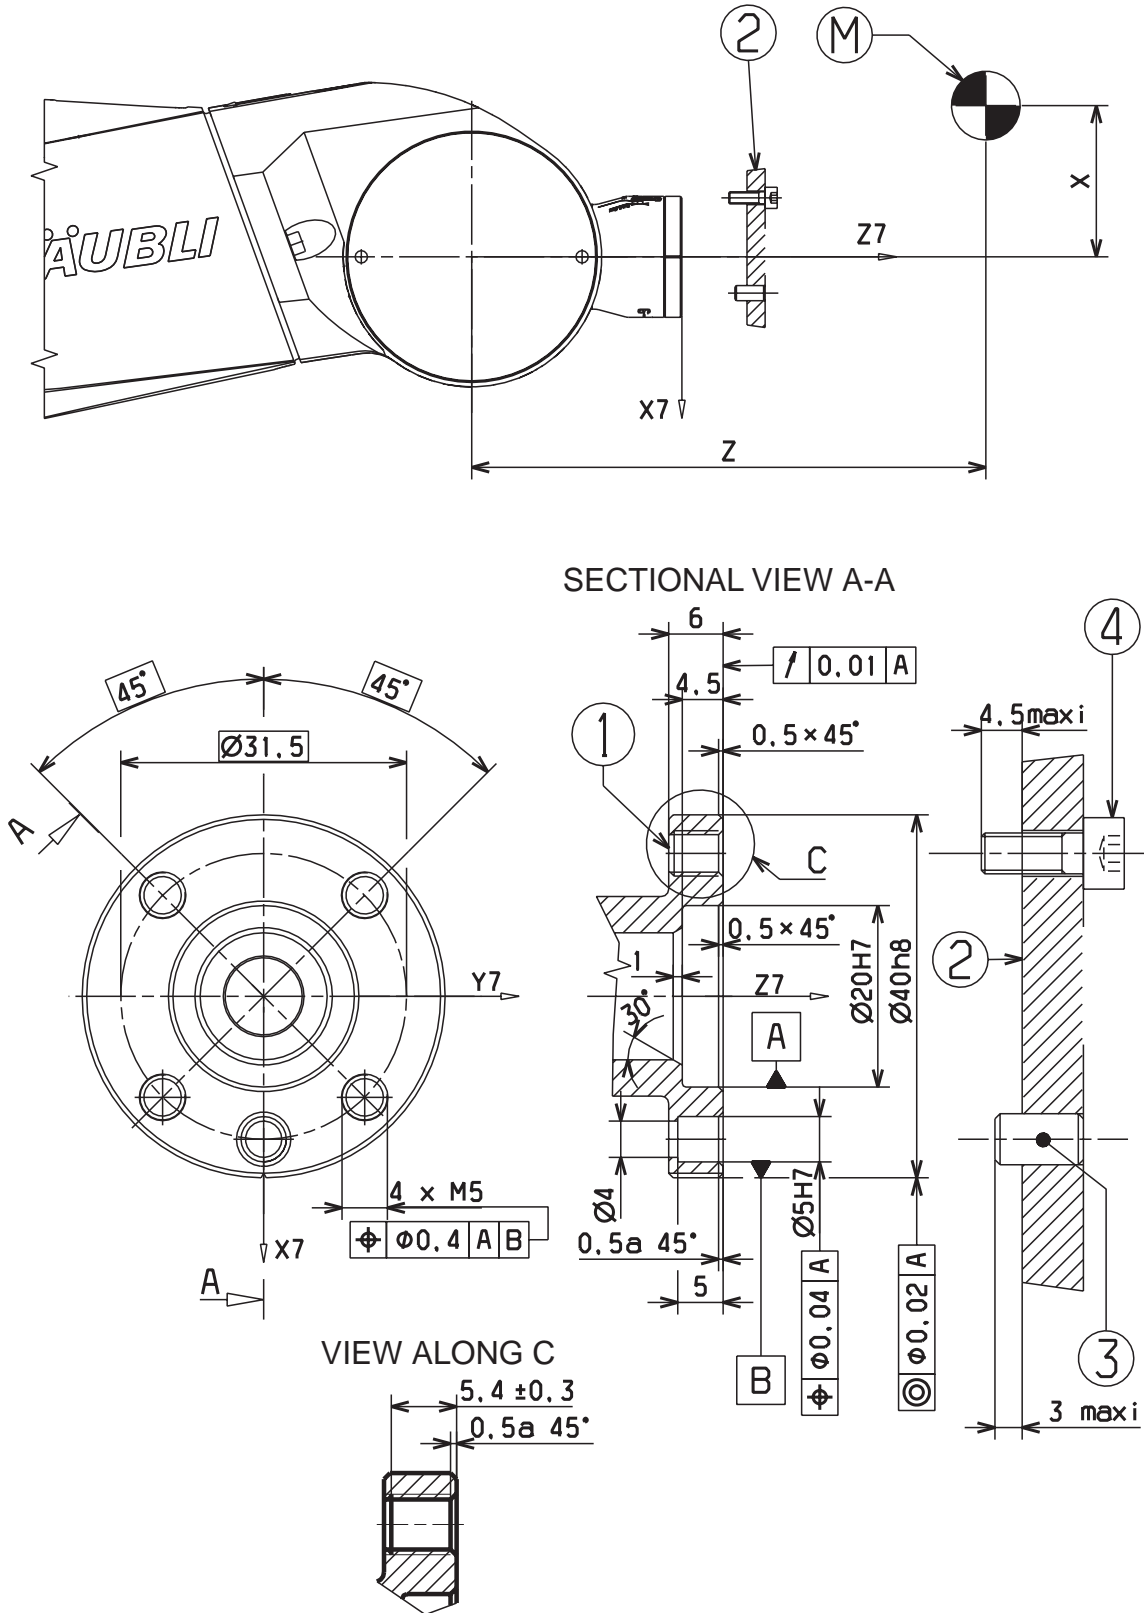

Figure 1.6
See **figure 1.6**.
The end-effector is installed on the mechanical interface of the wrist dimensions of which are given on **figure 1.6**.
Length of end-effector attaching screws is limited to avoid all interference with the wrist (figure 1.6).
1.6.1. LOAD CAPACITY (figure 1.6)